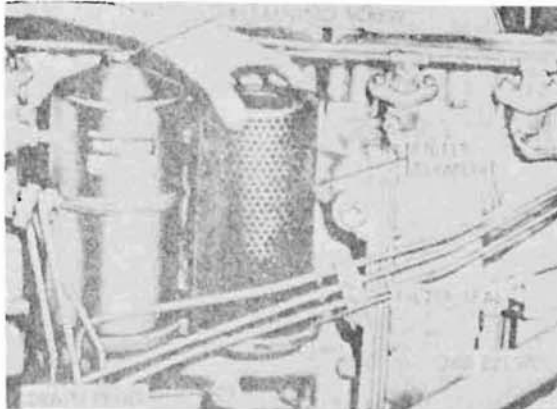

Figure 105. Engine oil filter element replacement
- (1) Open drain plug and drain oil from the oil filters (fig. 105).